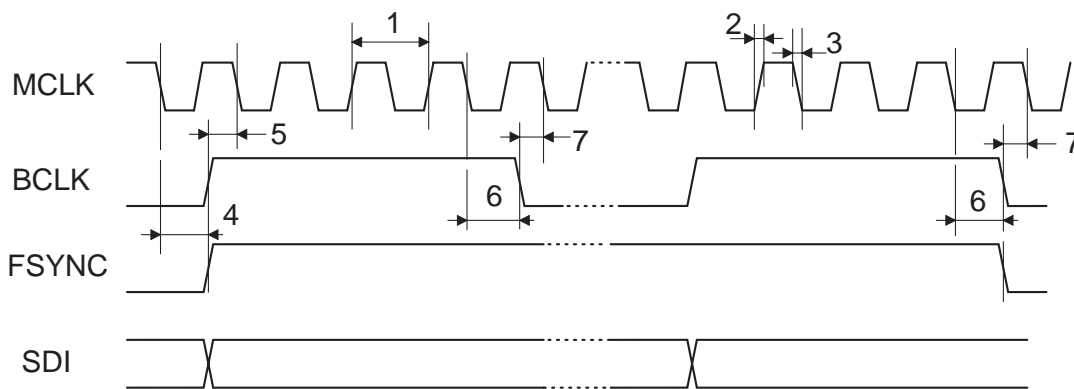

Figure 13: LFS mode, timing diagram
*see figure 13,14 for LFS and 15, 16 for SFS mode